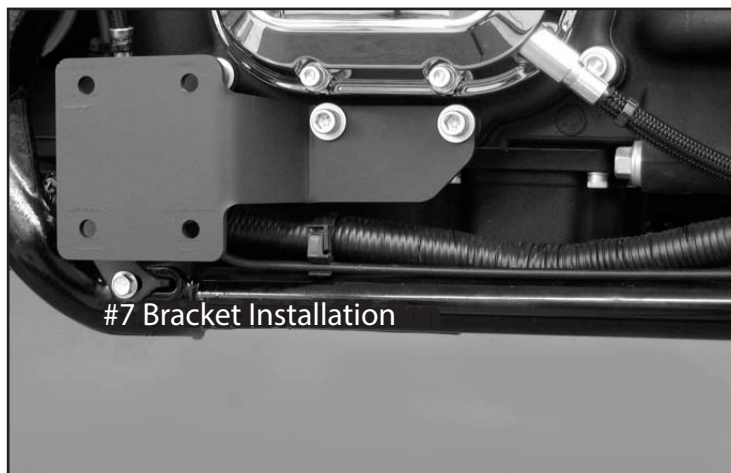

FIGURE 3
12. Referring to Figure 3 - Fasten the crossover pipe to the crossover bracket using supplied hardware. First place the crossover bracket between the arms of the header clamp. Next insert the 3/8"-16 x 1.5 flange head bolt through the header clamp, crossover bracket, heavy 3/8" washer and once again the arm of the header clamp. Lastly install a 3/8" thin flat washer and 3/8"-16 lock nut. **NOTE:** Do not tighten at this time.